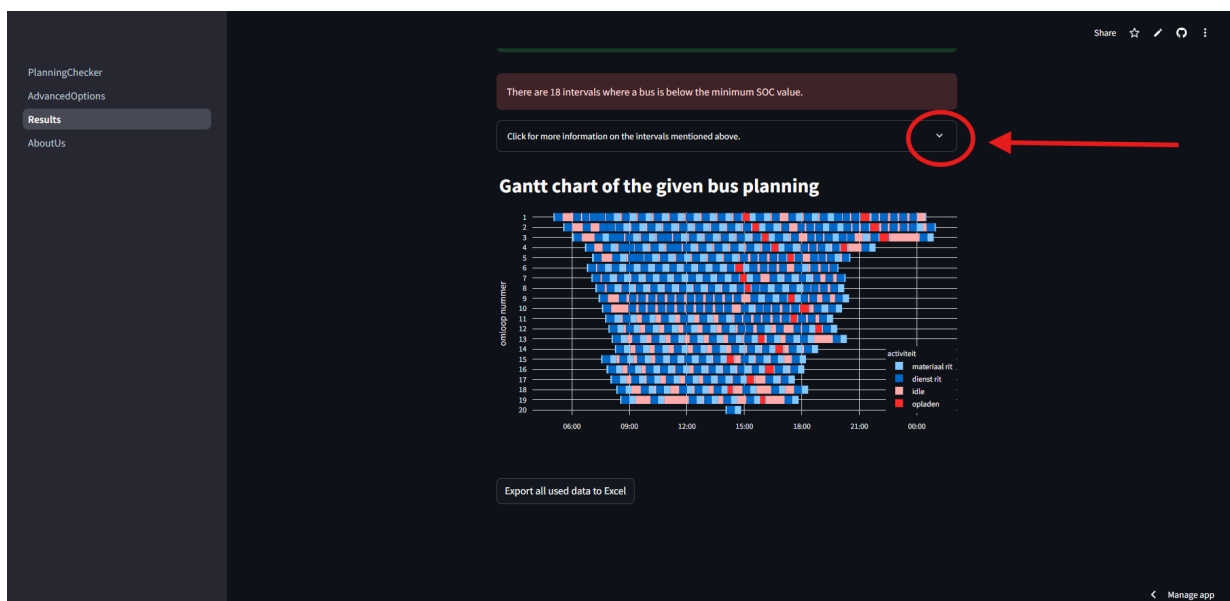

Figure 5: The results screen with the expand button highlighted.
- **Messages drop-down:** If the planning is incomplete, or has errors; you can click the drop-down to show specifics about where it is incomplete (see figure 5 and 6).